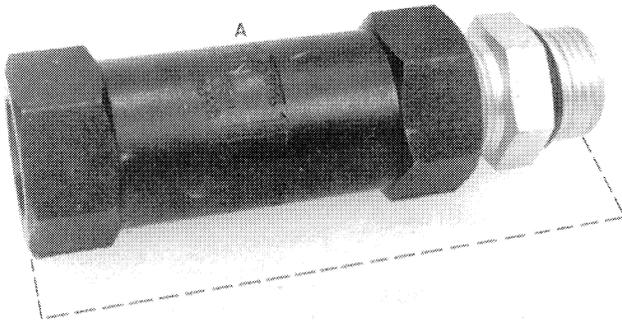

FIGURE 4-31
- a. Measure the total length of the valve, including the fitting, indicated by the dotted lines on Figure 4-31.